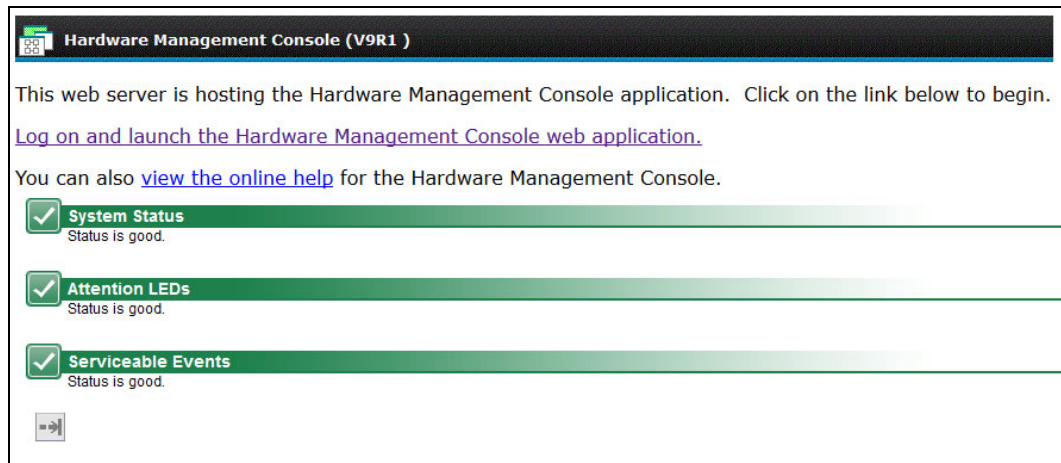

Figure 6-9 Service Management Console application
2. Click **Log on and launch the Hardware Management Console web application** to open the login window, as shown in Figure 6-9 on page 171, and log in. The default user ID is customer and the default password is cust0mer.